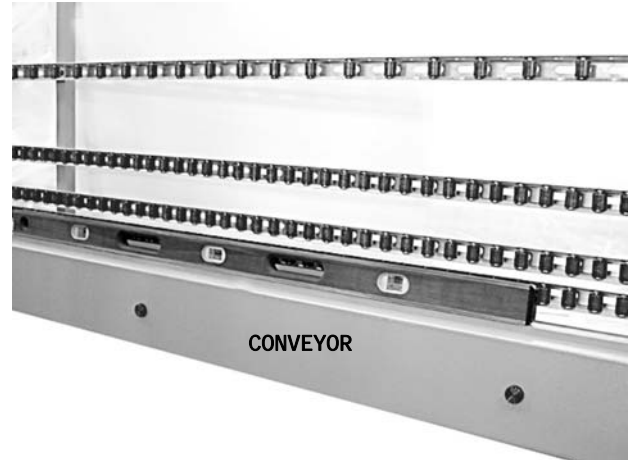

Figure 23
8. Level the loading conveyor, 0° side to side, with a precision level (see Figure 23). Repeat this procedure with the unloading conveyor. After this is done, tighten all of the screws in the previous steps.